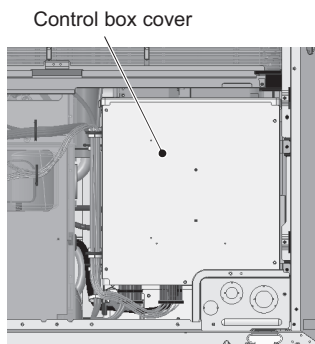

Figure 5
- (7) Remove the cover from the control box by unscrewing the 5 screws. (See Figure 5.)